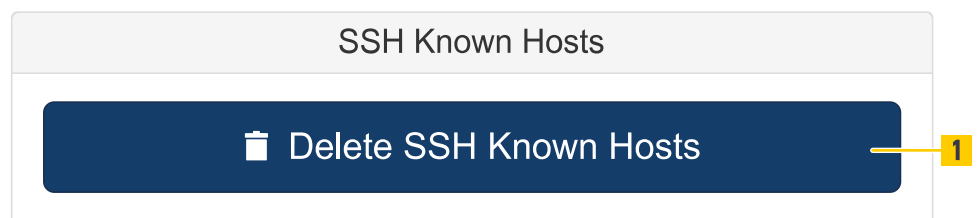

Fig. 147: SSH Known Hosts
- To delete the known hosts in the device click Delete SSH Known Hosts (Fig. 147 /1).